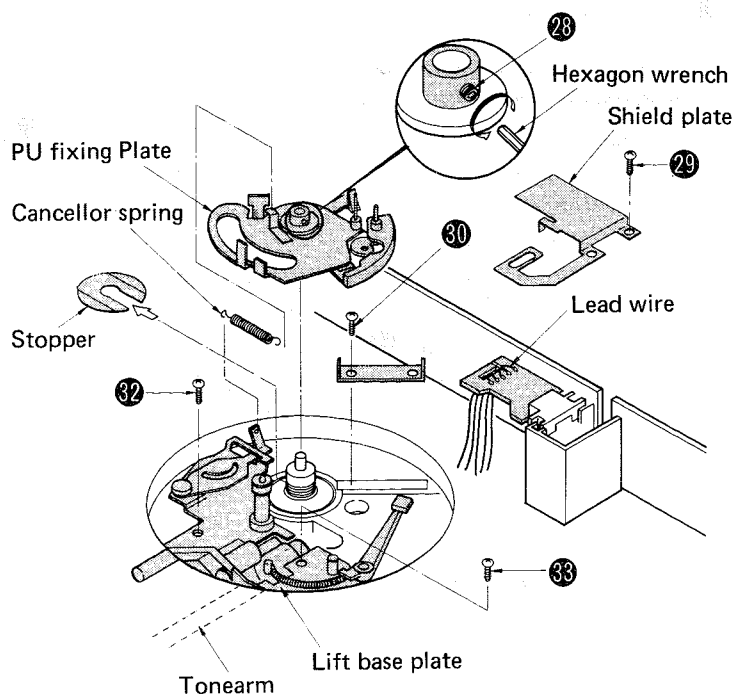

Fig. 5
2. Remove the cancellor spring from the PU fixing plate, loosen the PU fixing plate set screw 28 with a hexagon wrench, then the plate is disassembled when lifted upward. (See Fig. 5)
3. Remove the shield plate fixing screw 29 and disconnect the soldered five lead wires from the tonearm. (See Fig. 5)
4. Disengage the scerw 30 of the lead wire fixing plate and remove the tonearm stopper, then the tonearm can be taken off. (See Fig. 5)
8. Remove the lift base plate setscrews 32 and 33 . Then, the lift base plate can be removed. (See Fig. 5)